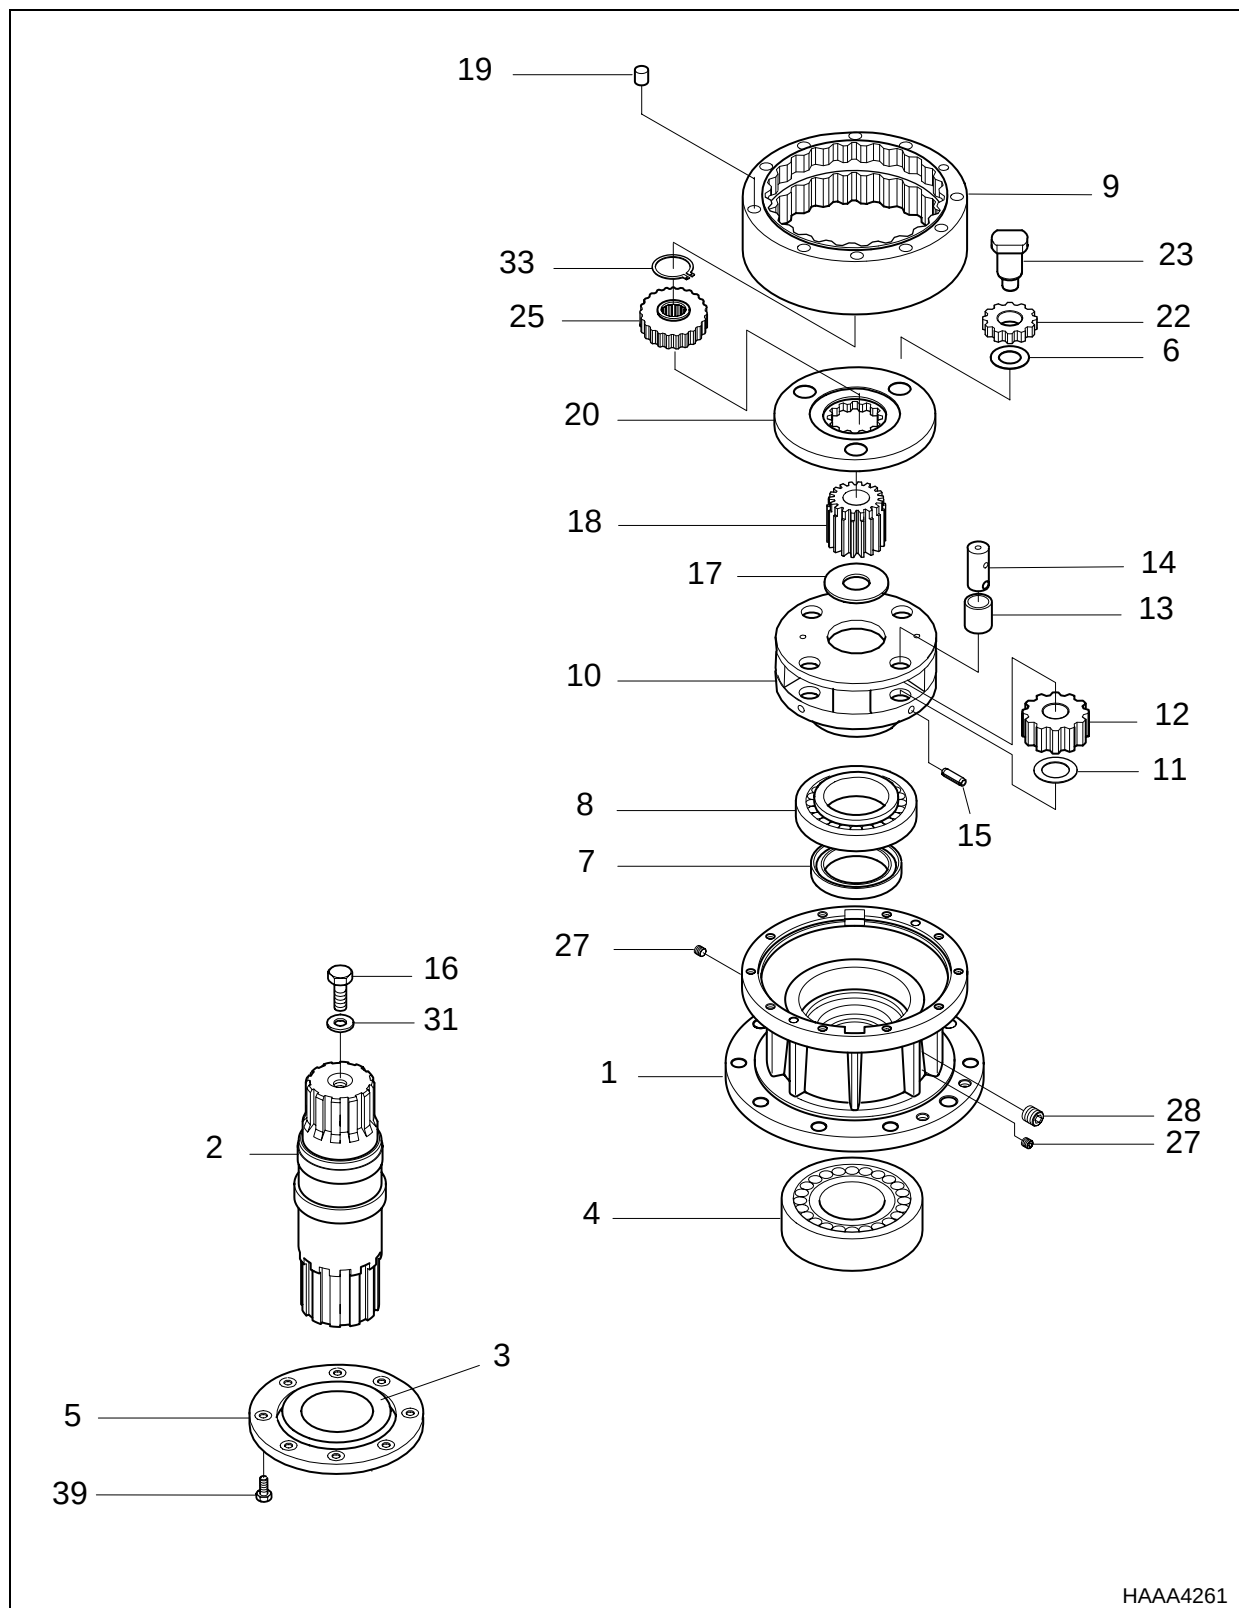

Figure 11
1. Install two plugs (27, Figure 11) and plug (28) in front casing (1), if replacement was necessary.
2. Press oil seal (7, Figure 11) into casing (1).
3. Press roller bearing (8, Figure 11) into casing (1).
4. Press roller bearing (4, Figure 11) on drive shaft (2).
5. Press drive shaft (2, Figure 11) and roller bearing (4) into casing (1).
NOTE: Press on outer race of bearing (4, Figure 11) and pinion gear end of shaft (2) at the same time. Be careful not to damage threaded holes in end of shaft.
NOTE: Make sure that bearing (8, Figure 11) remains seated on shoulder.
6. Hand pack bearing (4, Figure 11) and grease cavity with grease. Rotate drive shaft to ensure that bearing is coated with grease.
7. Install plate (3, Figure 11) in cover plate (5).
8. Secure cover plate (5, Figure 11) to casing (1) with eight bolts (39, Figure 11).
9. Assemble No. 2 carrier (10, Figure 11).
- A. Position No. 2 bushing (13, Figure 11) in No. 2 planet gear (12). Position gear and bushing, No. 2 thrust washer (11) and No. 2 pin (14) in No.2 carrier (10).
- B. Align spring pin hole in No. 2 pin (14, Figure 11) with hole in No. 2 carrier (10).
NOTE: Figure 12, shows how end of holes in pin (14, Figure 11) should be turned, in relation to the drive shaft.
- C. Press spring pin (15, Figure 11) into No. 2 carrier (10) and No. 2 pin (14).